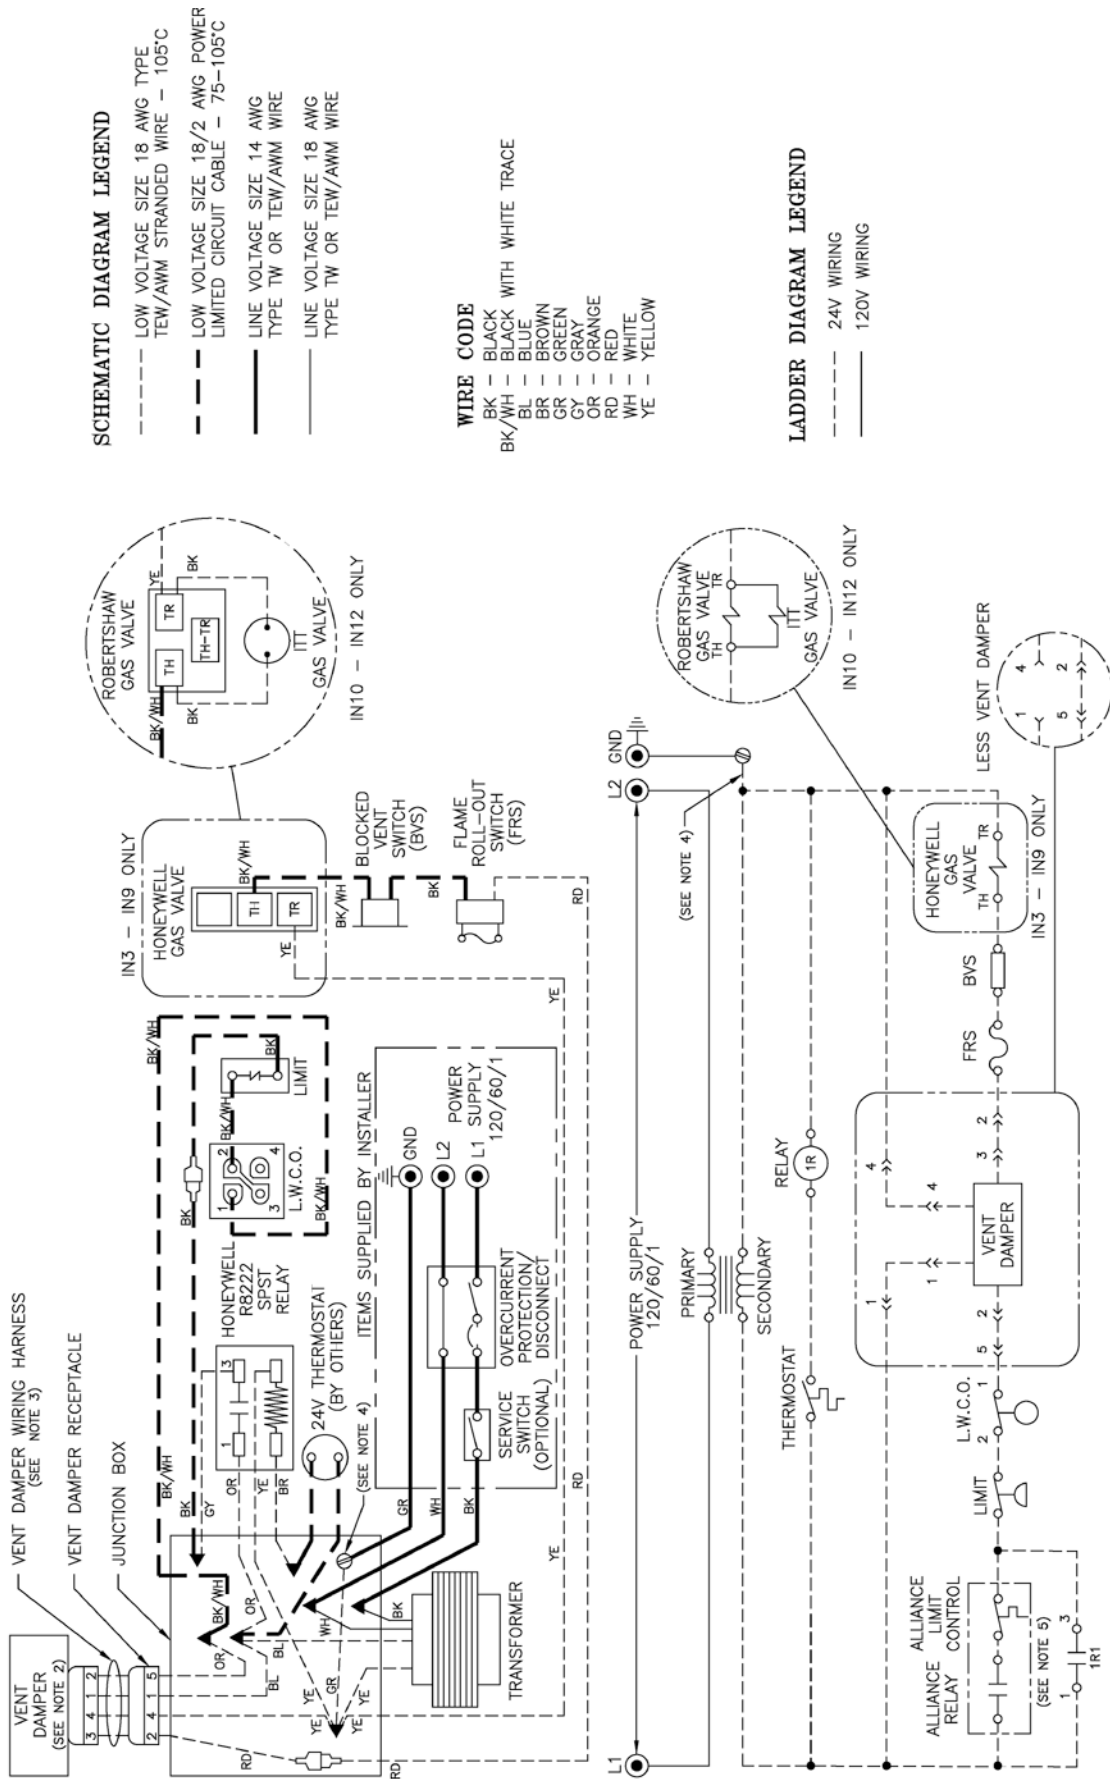

Figure 37: Wiring Diagrams, Steam, Continuous Ignition (Standing Pilot), Float Low Water Cutoff
J. Steam Boiler with Continuous Ignition (Standing Pilot) and Float Low Water Cutoff. See Figure 37.